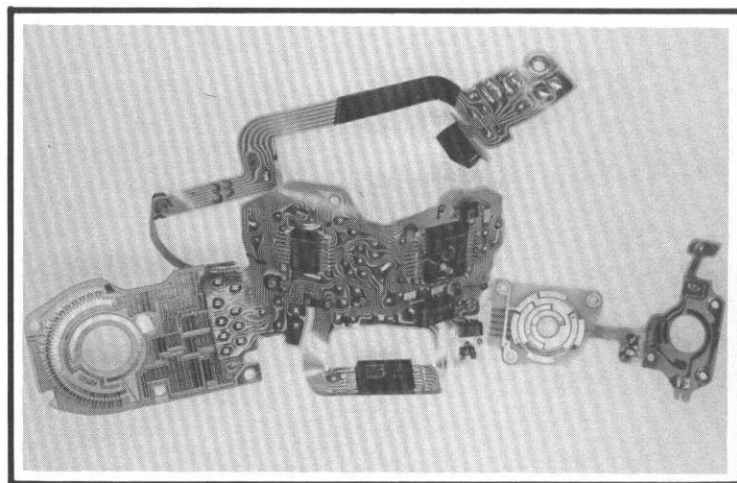

Figure 64 Electric Parts Unit CG1-0124-000
17. Remove the complete flex circuit, Fig. 64.